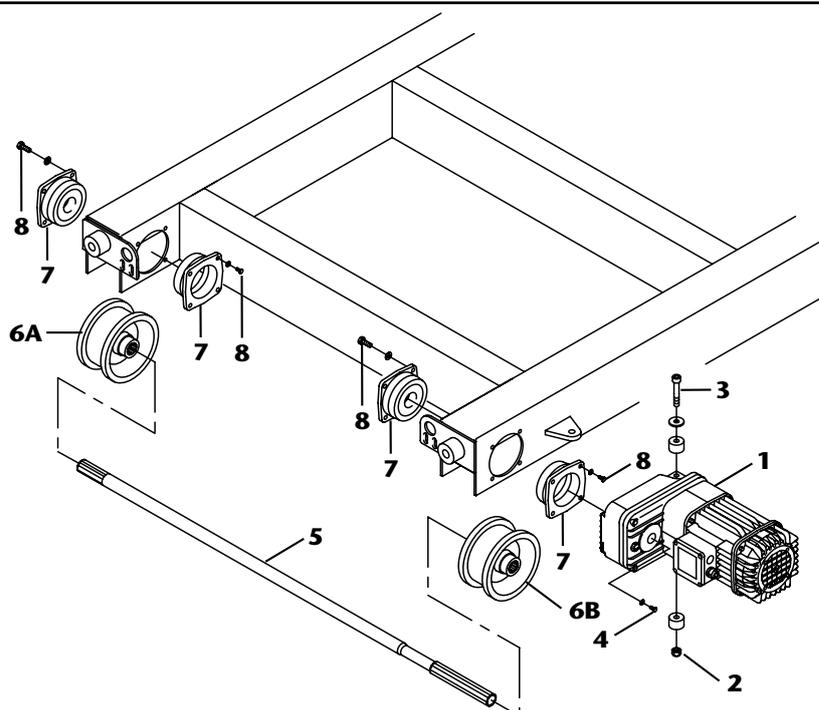

fig. 221
*To replace the wheels, proceed as follows: (fig. 221)*